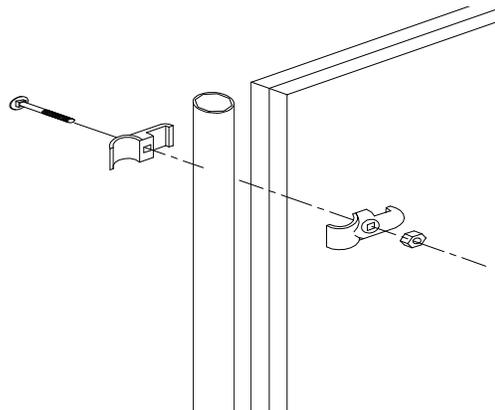

Figure 10.
1. Attach the filler pipes to the front end of each division panel with two square-round clamps (it takes two halves to make up one clamp) approximately 6" from either end of the filler pipe using the 5/16" x 1-3/4" carriage bolts and 5/16" nuts provided as shown in Figure 10.